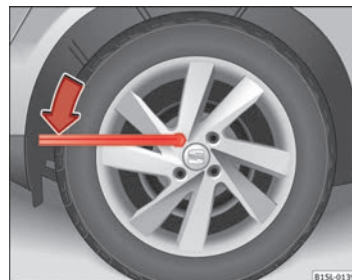

Fig. 141 Changing the wheel: Slacken the wheel bolts
- Fit the wheel brace as far as it will go over the wheel bolt ⇒ Fig. 141.